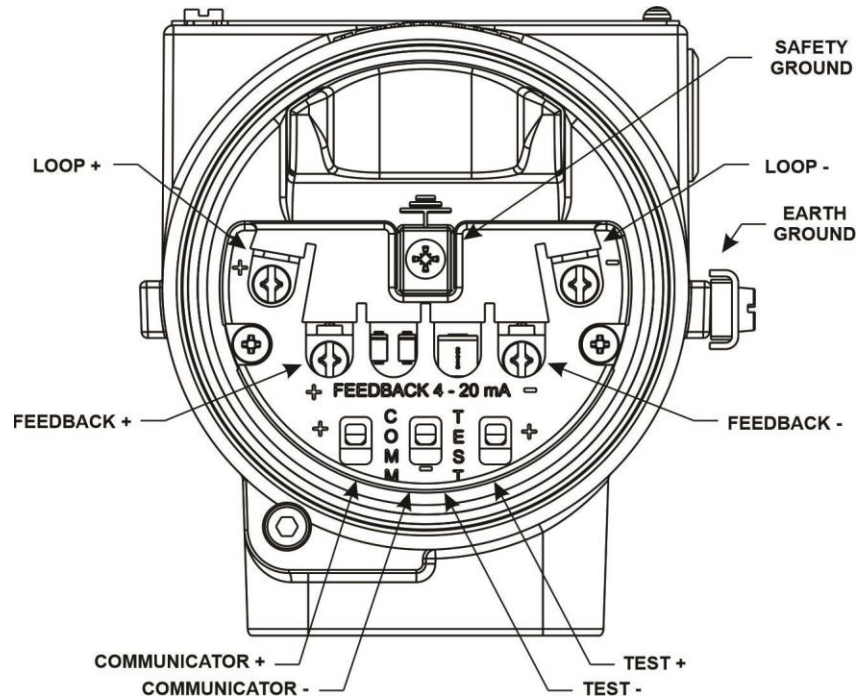

Figure 1.23 – Terminal Block
2. Attach the clip-on wires provided with HART interface to COMM terminals, or the (+) and (–) screws terminals, in the FY500 terminal block, as shown in figure 1.23.